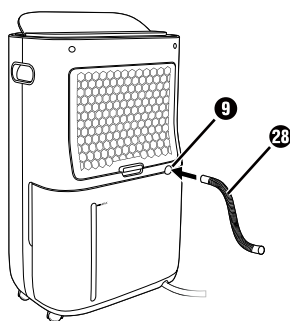

Fig. 3
- ◆ Connect either the supplied hose ②⑧ or the EU garden hose adapter ②⑨ to the outlet opening ⑨ (see figures 3 + 4).